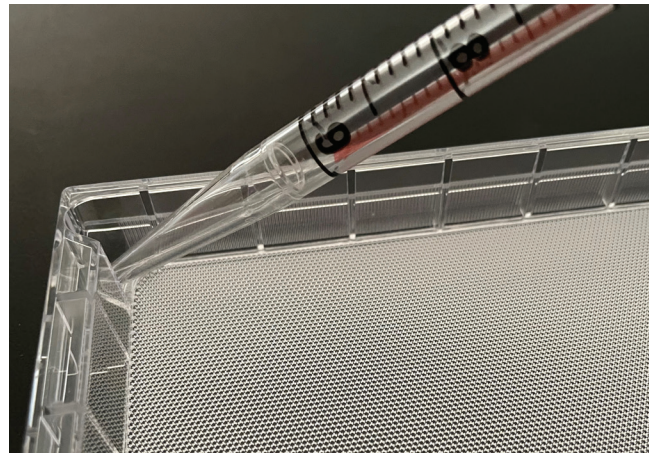

Figure 4. Recommended pipet tip position at a slight angle in one of the media exchange ports during medium addition.
4. To replace medium, place a serological pipet tip into one of the media exchange ports at a slight angle (as shown in Figure 4) and slowly add fresh medium into the Elplasia 12K plate.